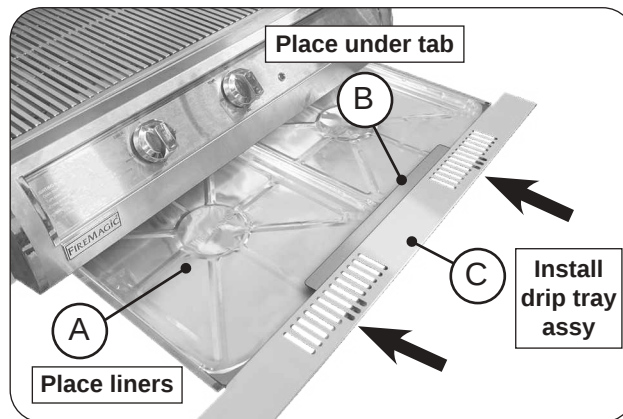

Fig. 34-1 Install drip tray
- Place the liners (Fig. 34-1, A) underneath the tab at the front portion of the drip tray (Fig. 34-1, B)
2. Fully insert the drip tray with liners into the bottom front opening of the electric grill (Fig. 34-1, C).